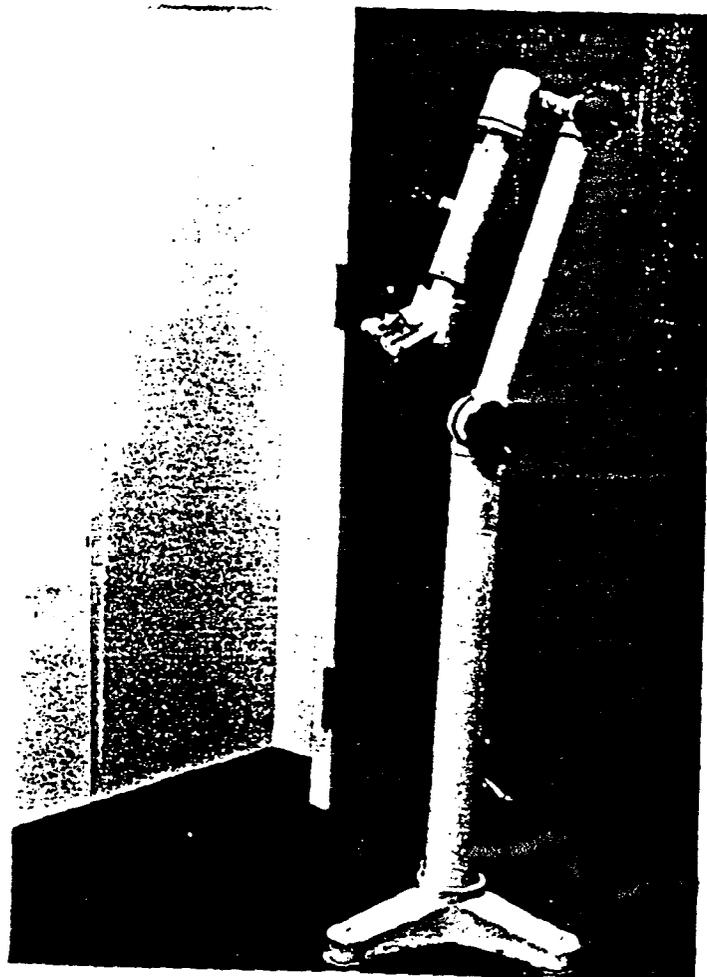

Figure 11. Transducer Holder
1. Place the transducer in the transducer holder (see Figure 11) and acquire a B-mode image of the left common carotid artery at or near optimal angle. Put the site located 1.5 cm below the origin of the carotid bulb in the center of the screen by placing the origin of the bulb at the bottom of the image screen.